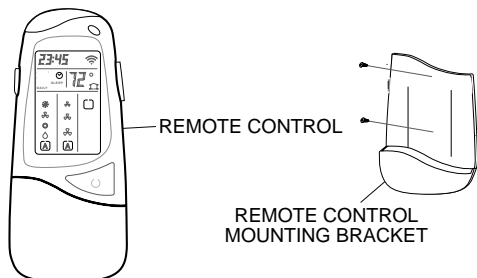

Fig. 10 — Attach Mounting Bracket to the Wall
1. Use the two screws supplied with the controller to attach the Mounting Bracket to the wall in the location selected by the customer (see Fig. 10).